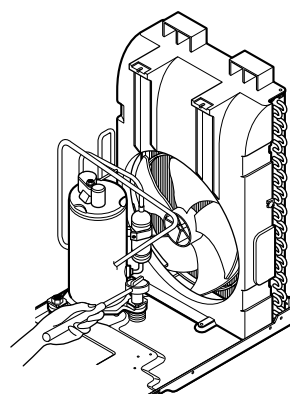

Figure 10
6. Remove the compressor. (See Figure 10)